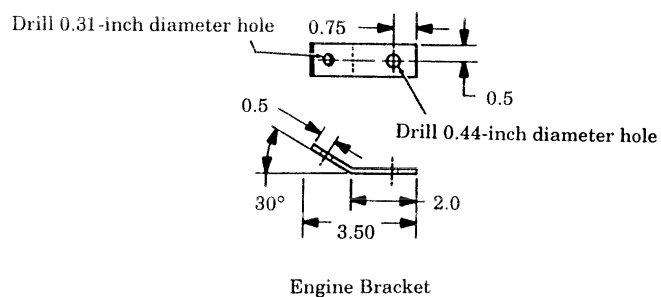

FIGURE 3-64
- (1) Using NSN 9510-00-294-0986 metal bar, fabricate two engine brackets. (see figure 3-64)